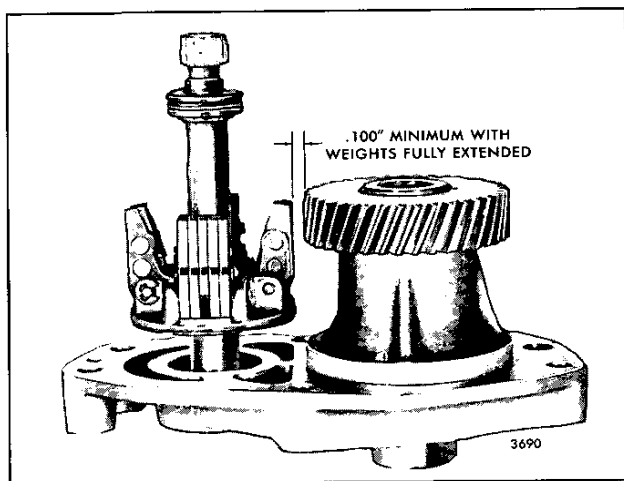

Fig. 19 – Minimum Clearance Between Blower Drive Gear and Governor Weights
7. Check the clearance between the fully extended governor weights and the blower drive gear. This clearance must not be less than .100" (Fig. 19).